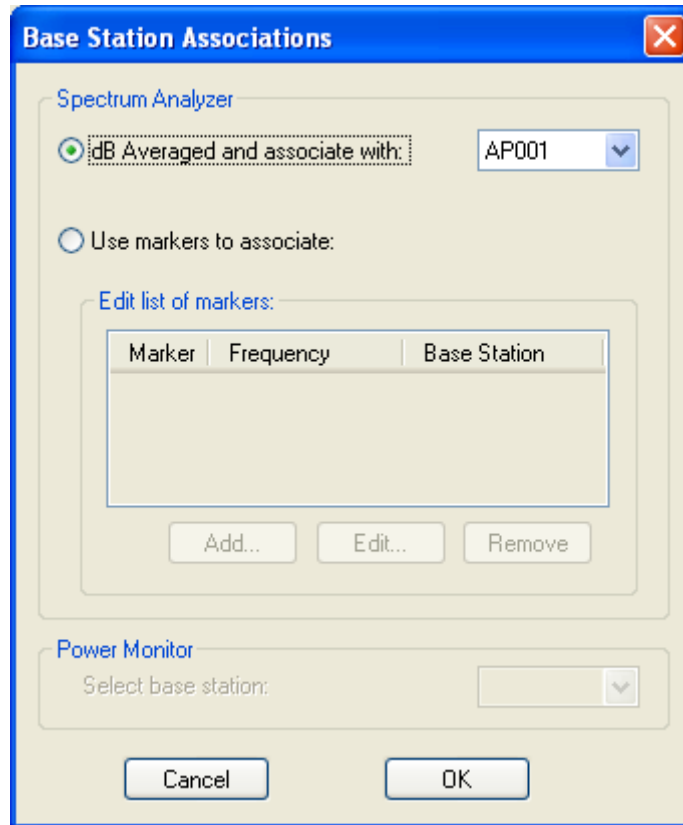

Figure 3: Base Station Associations Dialog
2. Click the “Associate Base Stations” button to associate measurement data with base stations placed within the current building. Refer to Figure 3 for help in navigating the base station association dialog.